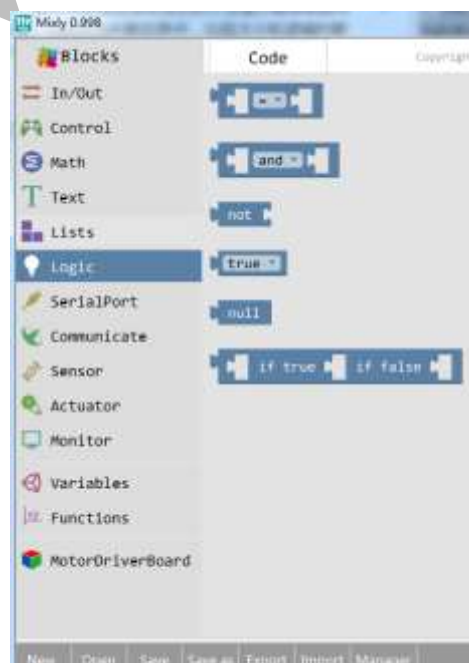

Figure 1-6-3
- 2) The main function of building blocks of digital and logical operation types is to do mathematical operation, which is used as the condition of judgment, to compare size and logical judgment with, or with, or without, as shown in Figure 1-6-3.